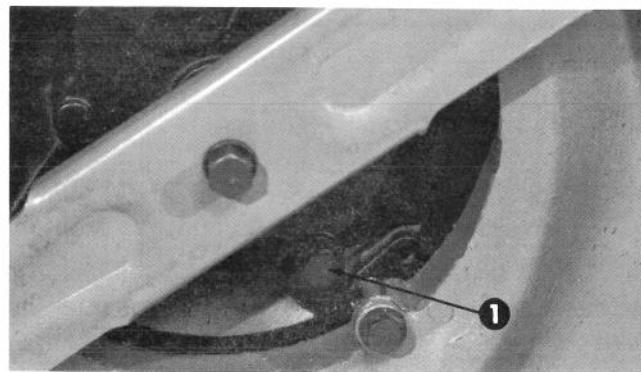

Figure 23
3. Tip mower on its left side and rotate blade until oil drain plug is exposed (Fig. 23).
4. Clean area around drain plug. Using 7/16-inch open end wrench, remove drain plug (Fig. 23). Gradually tip mower back to its normal position so oil flows into drain pan.